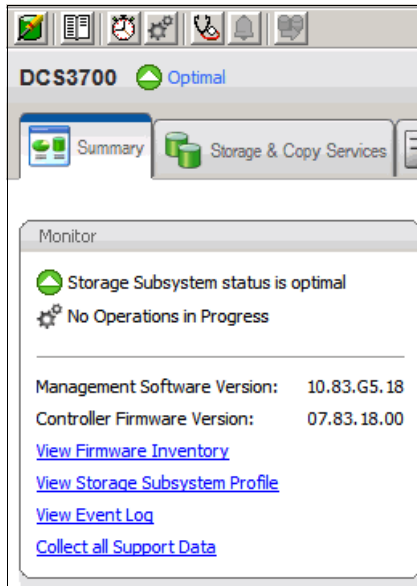

Figure 14-3 Viewing the DCS3700storage subsystem status in DS Storage Manager
- ▶ Make sure that the overall system status is Optimal by checking the Summary tab of the Storage Manager Subsystem Management Window, as shown in Figure 14-3 on page 425. If not, run the Recovery Guru, as described in 13.2, “View Health (Recovery Guru)” on page 387, to diagnose and fix the problem before proceeding with the upgrade.
**Note:** The overall DCS3700 Monitor status and current firmware version can be checked in the Summary tab of the Subsystem Management Window, as shown in Figure 14-3.